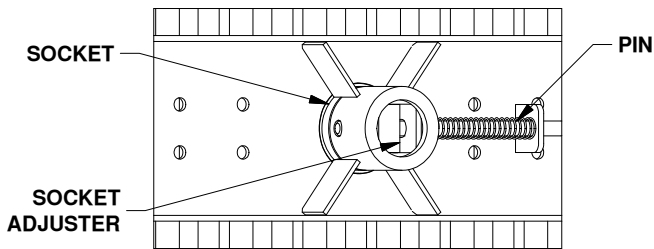

Figure C1: Typical view of Turnoverball gooseneck center under bed.
**⚠ WARNING:** Check the latch pin under the truck. Make sure that the latch pin has passed through both sides of the socket and that the pin is covered up inside the socket by the socket adjuster, see figure C1.